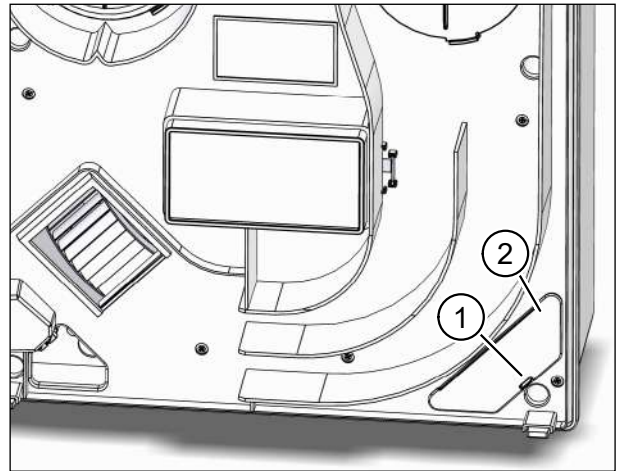

Fig. 35: Removing the network connection cover
- ▶ Press the latch (item 1 in Fig. 35) of the network connection cover (item 2 in Fig. 35) gently towards the middle of the unit, and lift up the network connection cover.